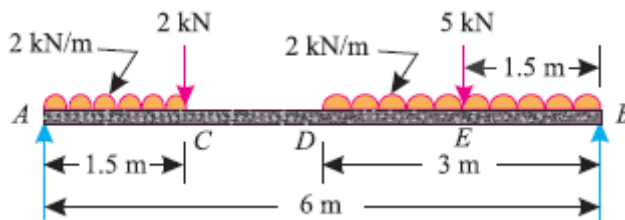

Fig.5
8. A simply supported beam AB of span 6 m is loaded as shown in Fig.5. Determine the reactions at A and B. [10 M]